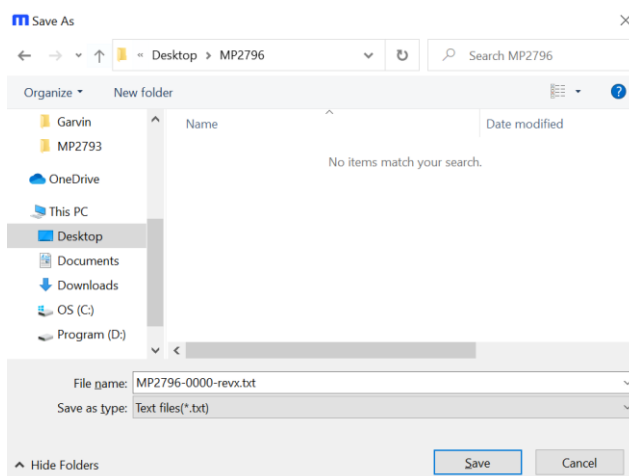

Figure 15: Save the Exported Configurations to Desired Location
- Find a location for the exported file, rename the file if necessary, and click “Save.” The configurations are saved in a text file (see Figure 15).